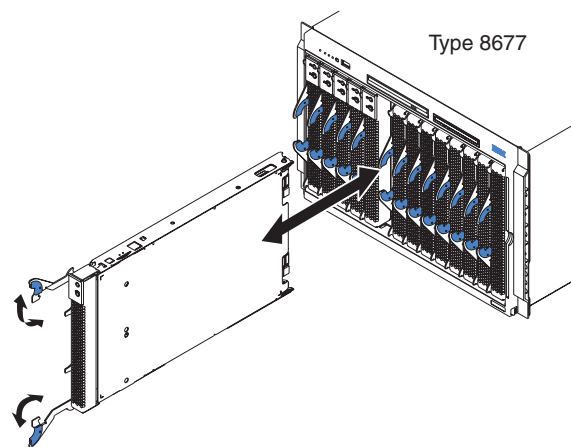
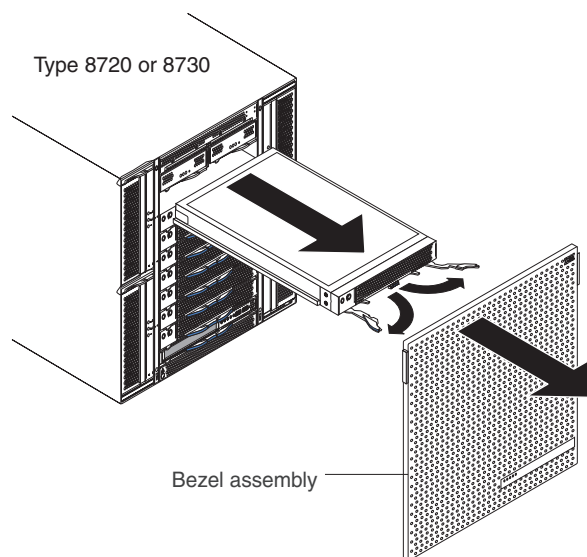

Figure 8. Blade server replacement in the BladeCenter unit Type 8677
Figure 9. Blade server removal in the BladeCenter unit Type 8720 or 8730
Figure 8 shows how to remove the blade server from the BladeCenter unit.
Figure 9 shows how to remove the blade server from the BladeCenter T unit.
2. Open the two release levers (see Figure 8 on page 29 and Figure 9 on page 29). The blade server moves out of the bay approximately 0.6 cm (0.25 inch).